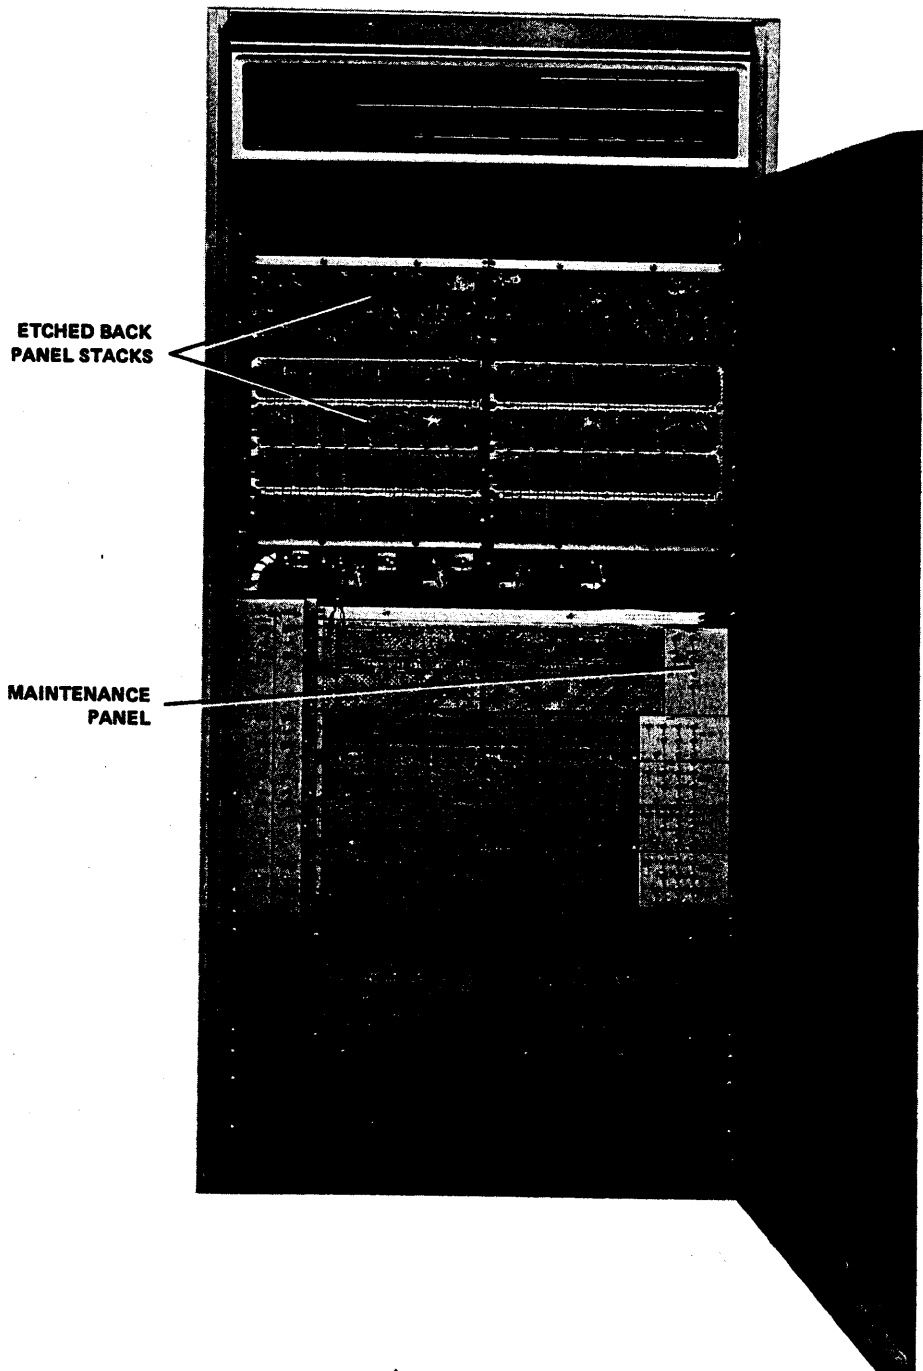

Figure 1-4 MF10 Core Memory Front View (Door Open)
- c. Etched back panel boards (Figure 1-4)
- d. Maintenance Panel (Figure 1-4).